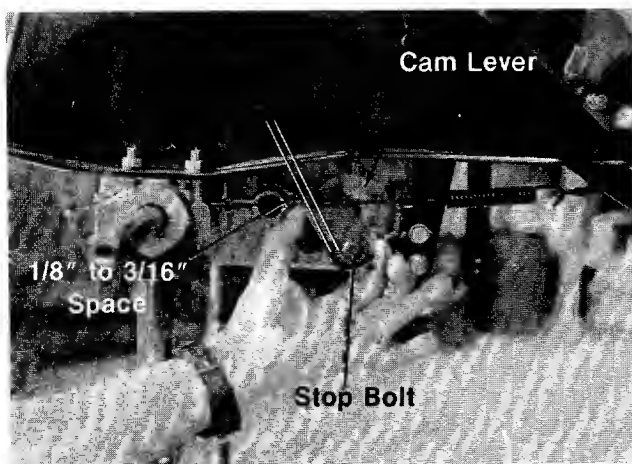

FIGURE 23.
2. Loosen the inside nut until the cam lever can be pushed forward so that there is a 1/8" to 3/16" space between the cam lever and stop bolt. See figure 23.